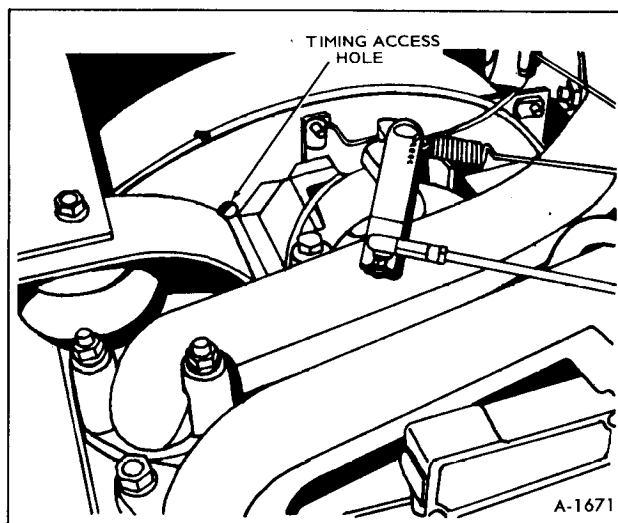

Figure 40—Timing Access Hole Location
2. Remove the dot button on blower housing to provide an access to view timing marks (See figure 40).
2. A small hole on the rear portion of blower housing provides an access to view timing marks (See figure 40). Two marks are provided; one for T/C (top center) and one for 2/5 (25° BTC).